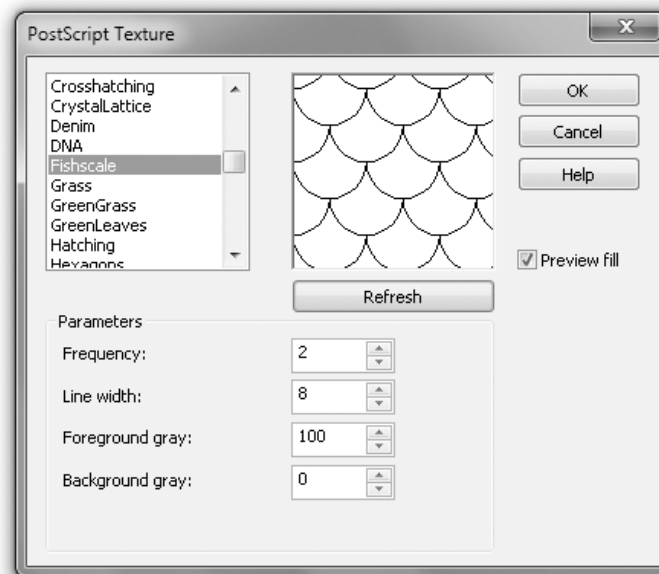

FIGURE 15-10 The PostScript Texture dialog lets you customize a PostScript fill.
1. Create and then select the object to apply any PostScript texture fill, and then choose the Interactive fill tool (G).
3. To customize the fill, click the Edit Fill button in the property bar to open the PostScript Texture dialog, shown in Figure 15-10. To view your currently selected fill, check the Preview Fill option. Notice that each fill has its own set of Parameters that can be changed.